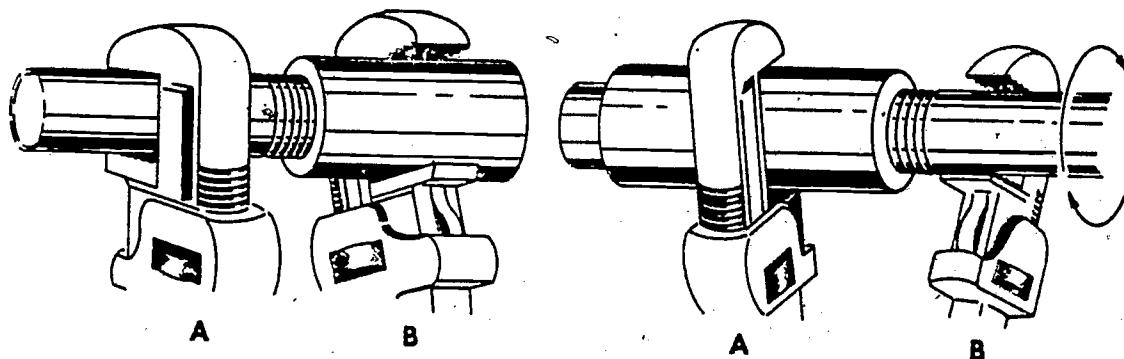

Figure 65. Wrench application.
12-40. Two pipe wrenches should always be used when wrought iron or steel fittings are being installed. This will allow for more pressure to be applied to tighten the joint. It is important that the pipe or fitting to which a new pipe or fitting is being installed does not turn. Figure 65 shows the correct way to apply wrenches. In figure 65, the pipe wrench (A) shows that it is used for holding the pipe to keep it from turning while the fitting is being tightened. Figure 65 shows another pipe being connected to the coupling. Therefore, the coupling (B) must be held to assure that the next pipe is connected securely. Two or more fittings should never be connected at the same time.